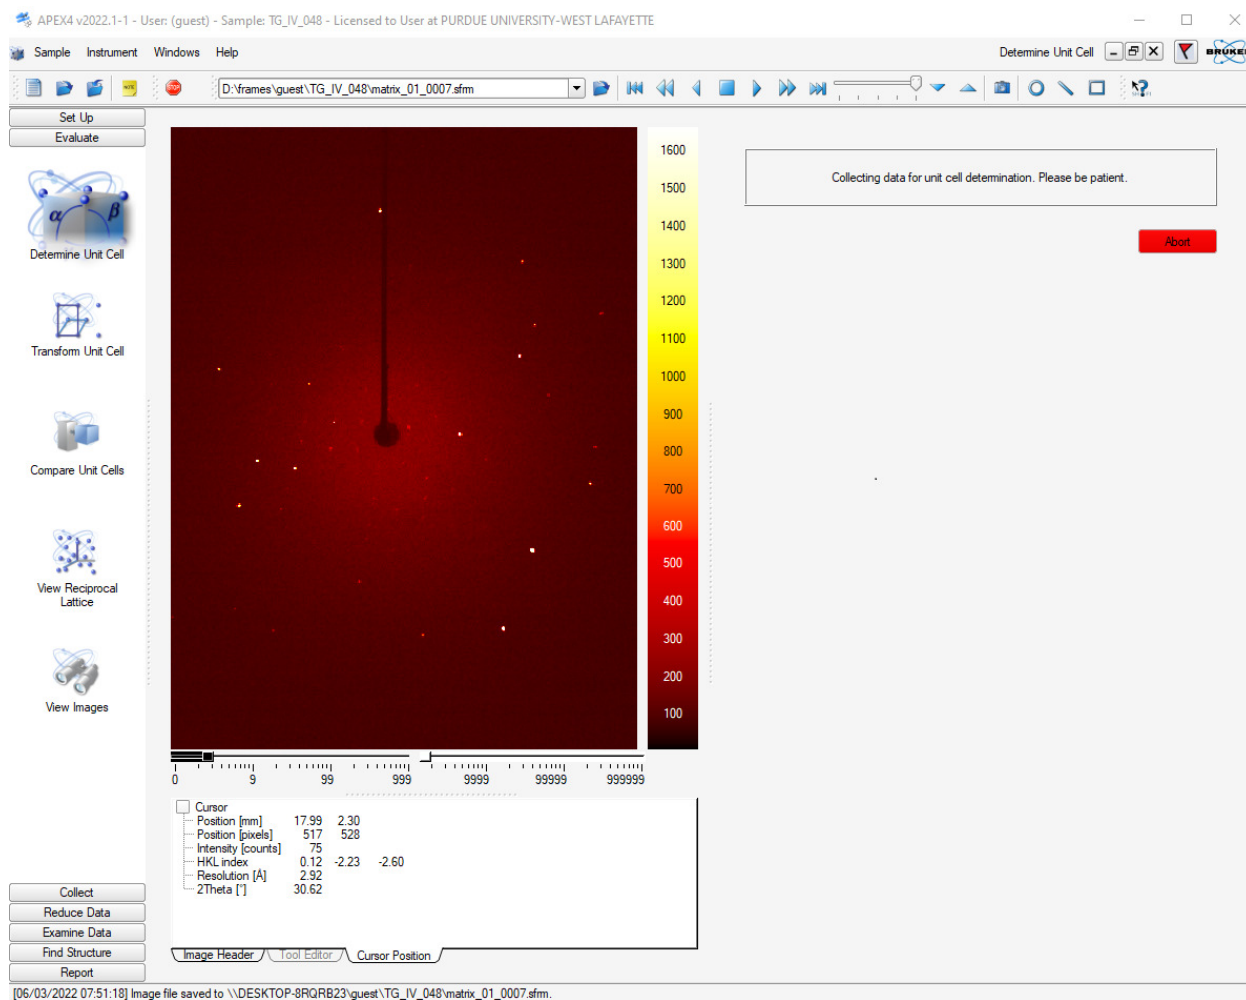
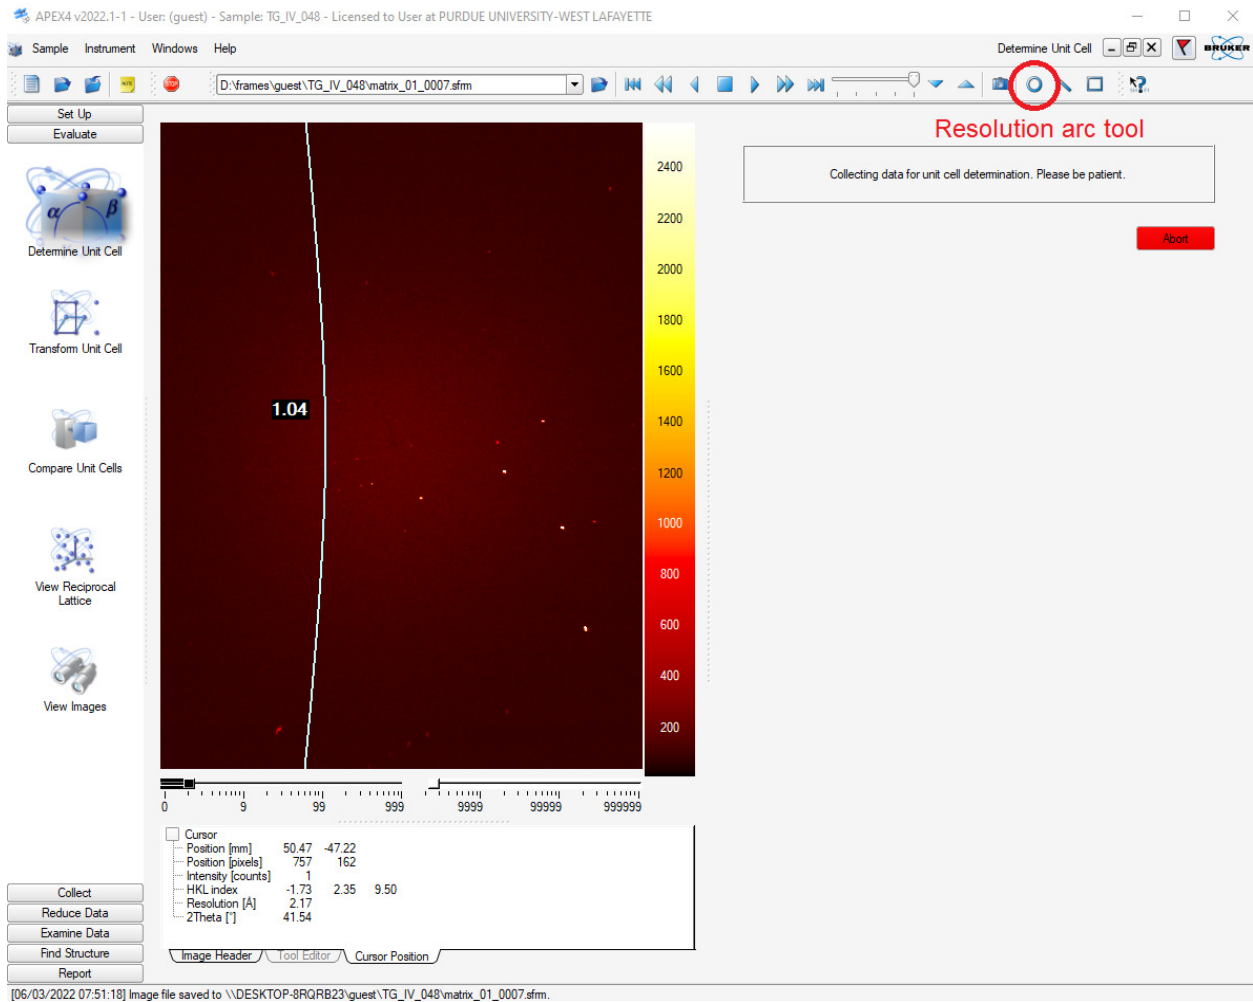

Figure 11, Unit Cell window with the first (low angle) sweep running.
Figure 12, Unit Cell window with one of the high angle sweeps running and resolution arc tool.
- The first sweep will be at low angle, with the beam stop visible at the center (Figure 11). The second and third run (Figure 12) will be at high angle. Make sure that your specimen diffracts to sufficiently high angle. Use the resolution arc tool (Figure 12) to check the resolution limit. Only samples that show at least some diffraction above ca. 0.9 Å (with ten second exposures) are likely to meet the IUCr requirements for publication.